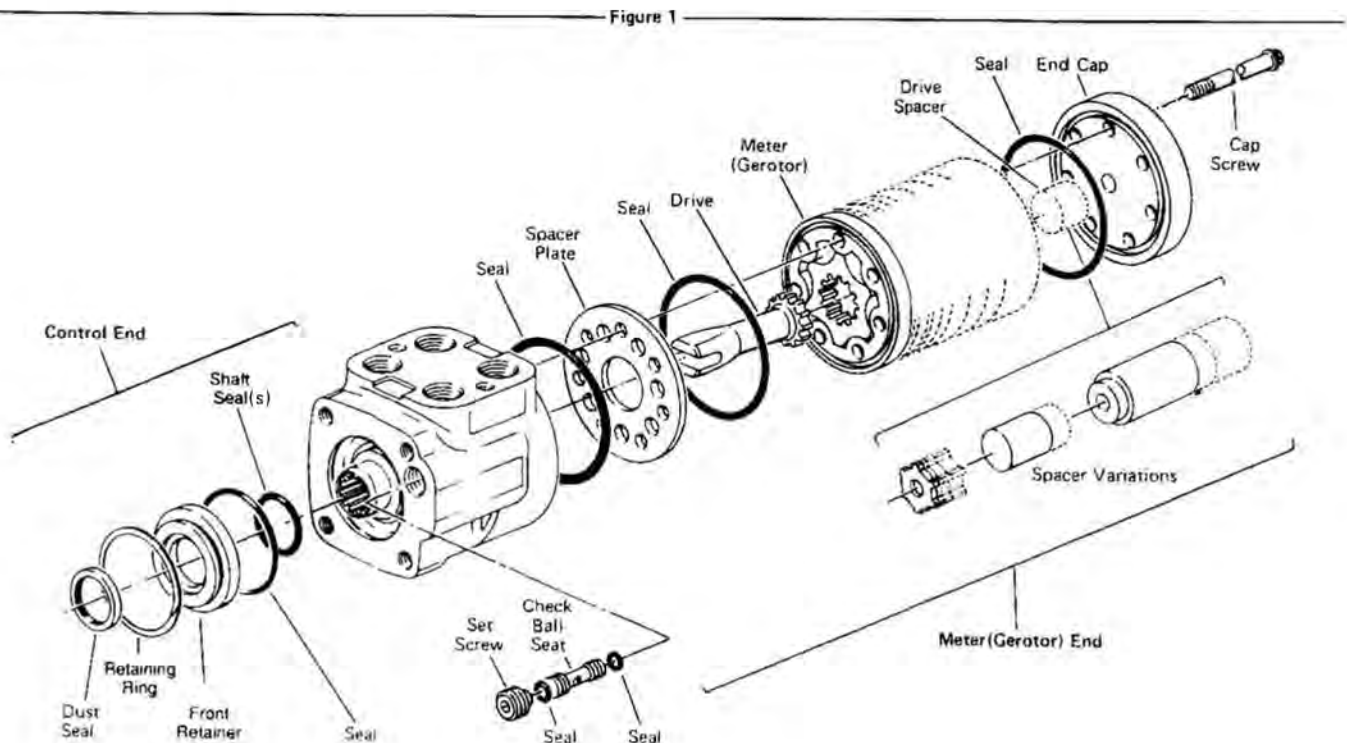

Figure 1
Clean exterior of steering control unit. Drain oil from housing. Disassemble and reassemble parts as shown in Fig. 1.
- 18 Lubricate 5/8" diameter seal and 7/16" diameter seal. Install seals on check ball seat as shown in Fig. 1.